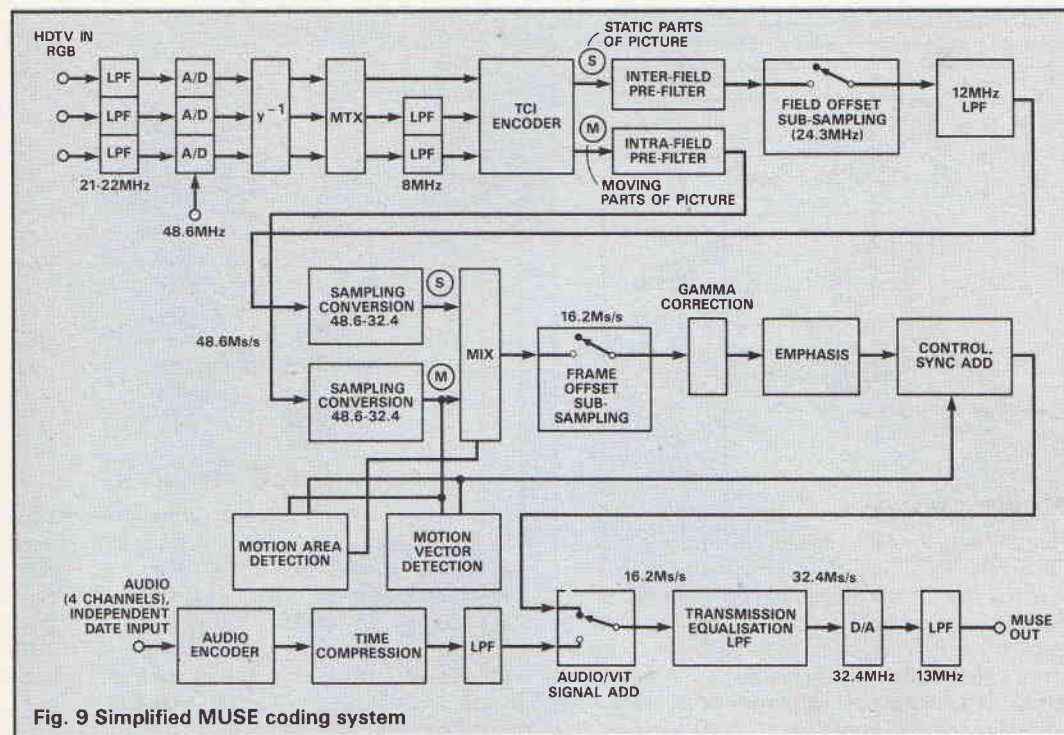

Fig. 9 Simplified MUSE coding system
Figure 9 shows much simplified block diagram of a MUSE coding system. The RGB input signals from the camera are digitised at a sampling frequency of 48.6 MHz and then turned into linear form by removing the gamma correction. They are then converted into luminance (Y) and colour difference (C) signals in a matrix, and the Y and C signals are combined into a Time Compressed Integration (TCI) format. The colour channel signals are time-compressed by a factor of four to one compared with the luminance, so as to provide the most acceptable noise performance. The TCI signal is then processed in different ways for the static and moving parts of the picture. For moving parts line offset subsampling at 24.3 MHz (48.6 MHz / 2) is used, and for stationary parts frame and field offset subsampling is used. The